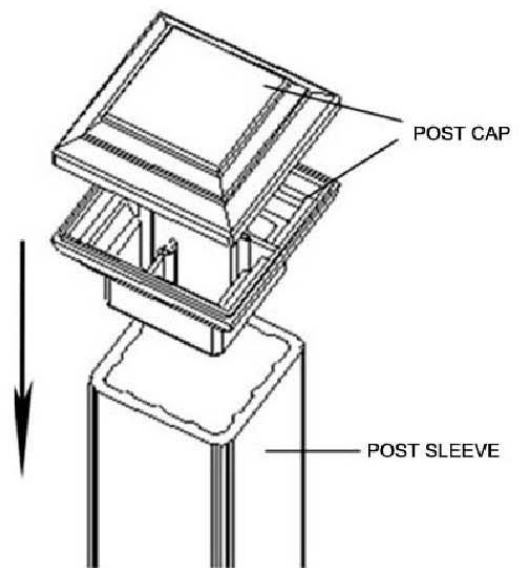

FIGURE 4
5. Glue the post caps and insert them into the post sleeve. As shown in Figure 4.